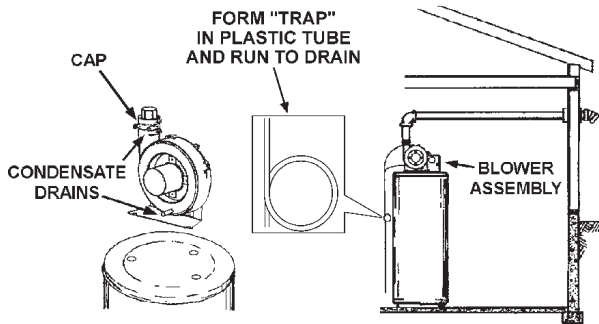

FIGURE 5
3. The blower discharge adapter is made to accept only straight sections of 2" pipe. To start, a minimum of 2 inches of 2" pipe must be attached to the blower discharge (See figure 5).
- There will be some installations where condensate will be formed in the horizontal runs of the vent system. This condensate will run into the condensate boot attached to the blower and out the fitting. The water heater is shipped with condensate hose that attaches to the fitting on the condensate boot. No other Tee or fitting is required. See Figures 5, 8 and 9.
THIS WATER HEATER IS A CONDENSING UNIT AND REQUIRES A DRAIN TO BE LOCATED IN CLOSE PROXIMITY TO ALLOW THE CONDENSATE TO DRAIN SAFELY. THE CONDENSATE DRAINS FROM THE UNIT AT THE EXHAUST TEE LOCATED AT THE BOTTOM OF THE UNIT (SEE FIGURE 4) AND FROM TWO PLACES ON THE BLOWER ASSEMBLY (SEE FIGURE 5). Condensate from this water heater is mildly acidic. Please note that some local codes require that condensate is treated by using a pH neutralizing filter prior to disposal.
Condensate is likely to form in the venting system attached to this water heater. The vent pipe should be sloped downward away from the blower assembly (not less than 1/8" (3.2 mm) nor greater than 1/2" (12.7 mm) per foot maximum). If the vent piping is vented level or sloped upwards away from the blower assembly, then adequate means for draining and disposing of the condensate needs to be made by the installer. In either case, a 3/8" drain hose should be connected to the built-in drain port. Prior to operating the water heater, make sure the removable cap is installed on the second drain port (See Figure 5).
CONDENSATE ALSO DRAINS FROM TWO LOCATIONS ON THE BLOWER ASSEMBLY AS SHOWN IN FIGURE 5. A CONDENSATE HOSE MUST BE SECURED TO FORM A "TRAP" AS SHOWN IN FIGURE 5 FOR THESE CONDENSATE DRAIN CONNECTIONS. THESE TWO HOSES MAY BE CONNECTED TOGETHER. THE HOSE(S) SHOULD BE ROUTED TO A SUITABLE DRAIN. A fitting that may be used to join the two hoses from the blower assembly is included in a supplied kit.